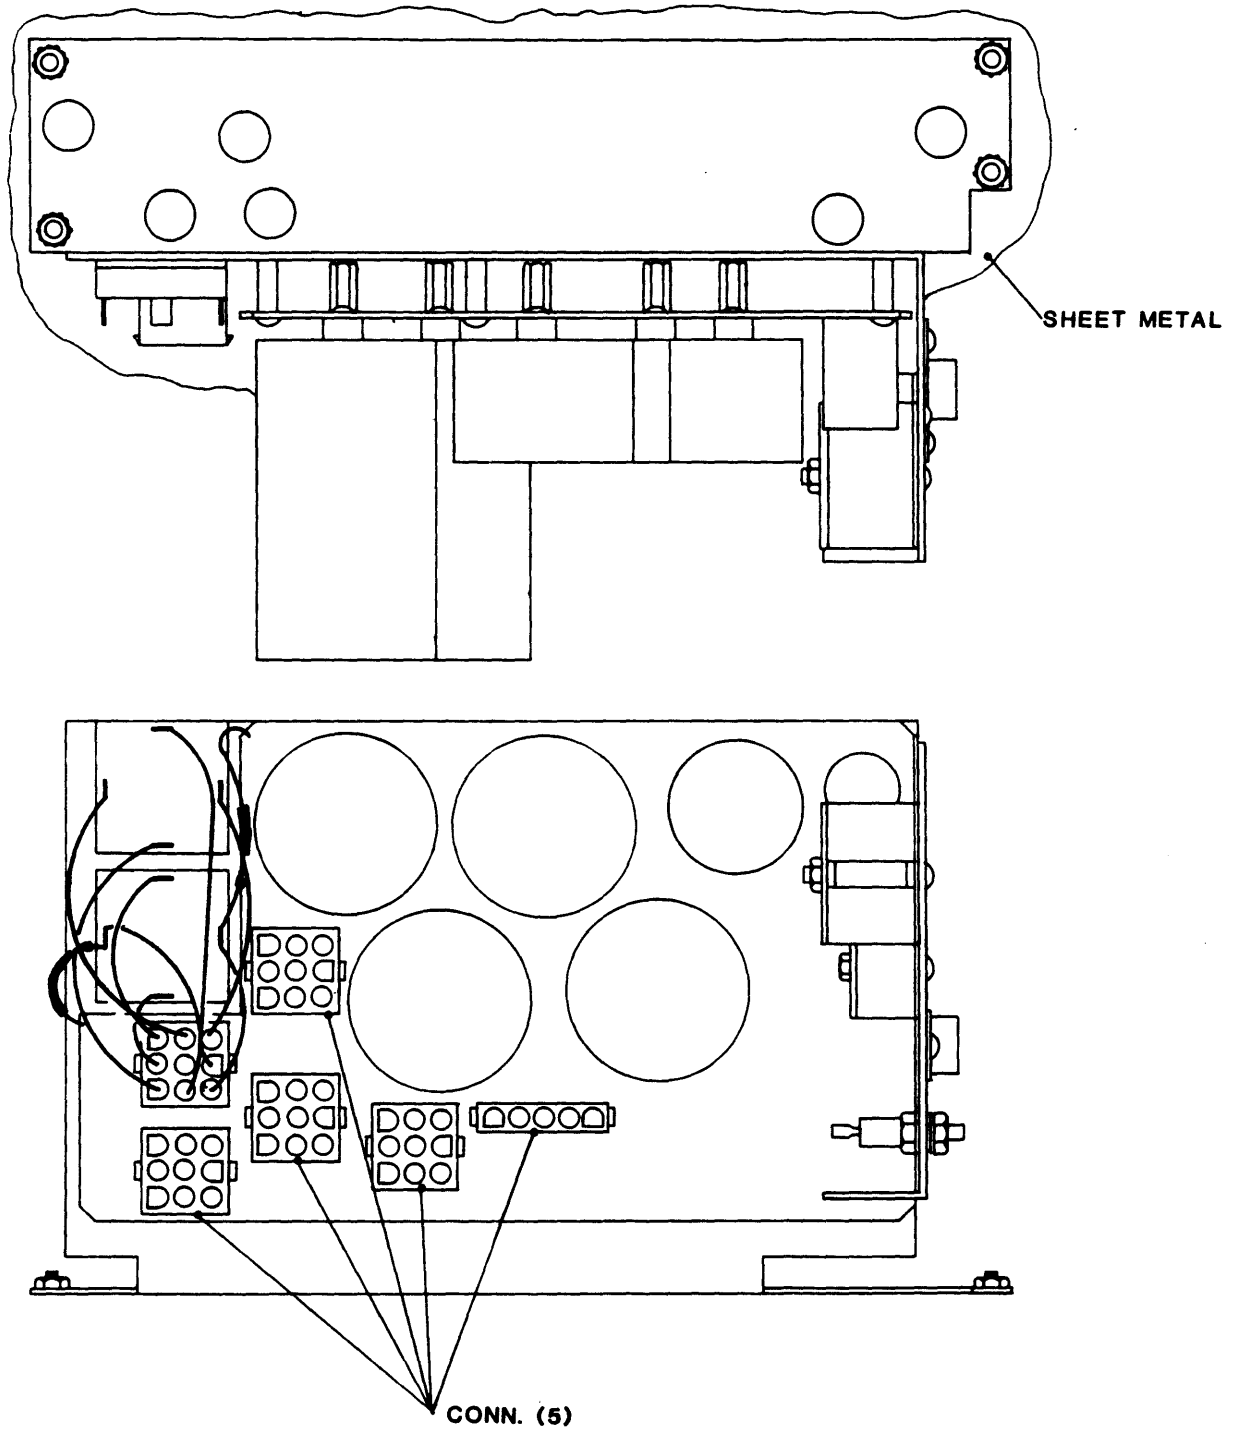

Figure 4-15 5VDC Regulator Power Supply
4.3.16 5 VDC REGULATOR POWER SUPPLY (Fig. 4-15)
- 1) Unplug the five connectors shown in Figure 4-15 from the Power Supply: Tag each connector for identification as you disconnect it, noting its mating receptacle.